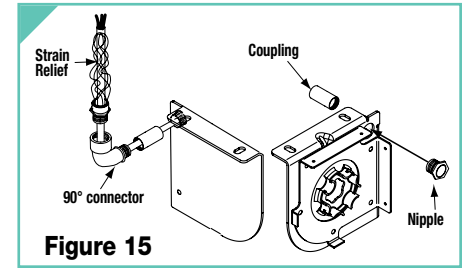

Figure 15
1. Thread electrical wires through 90° Coupler and into screen case as shown in Fig. 15.
The Limit Switches are located inside the steel box on the winch (see Fig. 15).